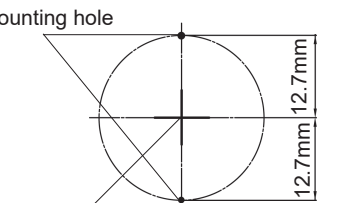

Fig.3
Mark anchor(1) hole location vertically 12.7mm above and below the center point as Fig.3 shown. Drill hole in the finished wall as required.